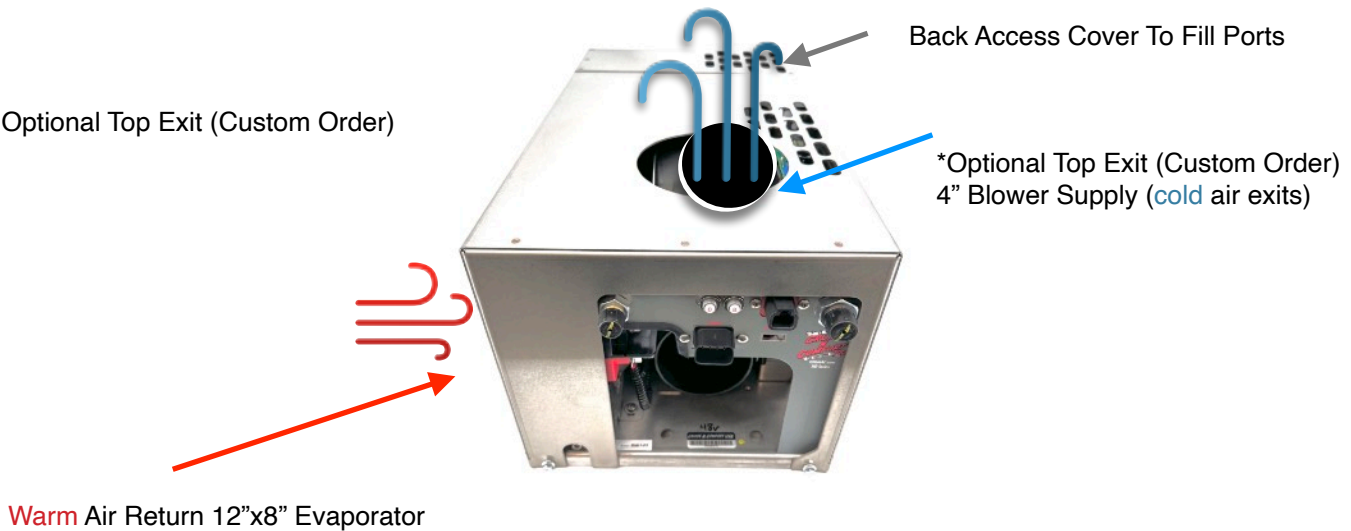

Figure 1: HD Unit dimensions
1. Locate the area where the unit will be mounted and double check that there are *NO* obstructions. Make sure that the location allows for the cold air to return easily through the long side of the unit. If the return air cannot easily return into the unit, cooling performance will be limited. The side that has perforated holes and the words “Cruise N Comfort USA” laser cut into it is the intake for return air, DO NOT RESTRICT THIS INTAKE. Make sure the unit is mounted so that the cover can be removed to evacuate, charge and service the system. The evaporator/compressor box needs to be mounted in the area it is cooling. It is not designed to be outside in the elements. Dust, moisture, and heat from outside the vehicle will harm this piece. The condenser is the only component that should be outside. See *Figure 1* for HD unit dimensions and *Figure 2* for recommended placement.